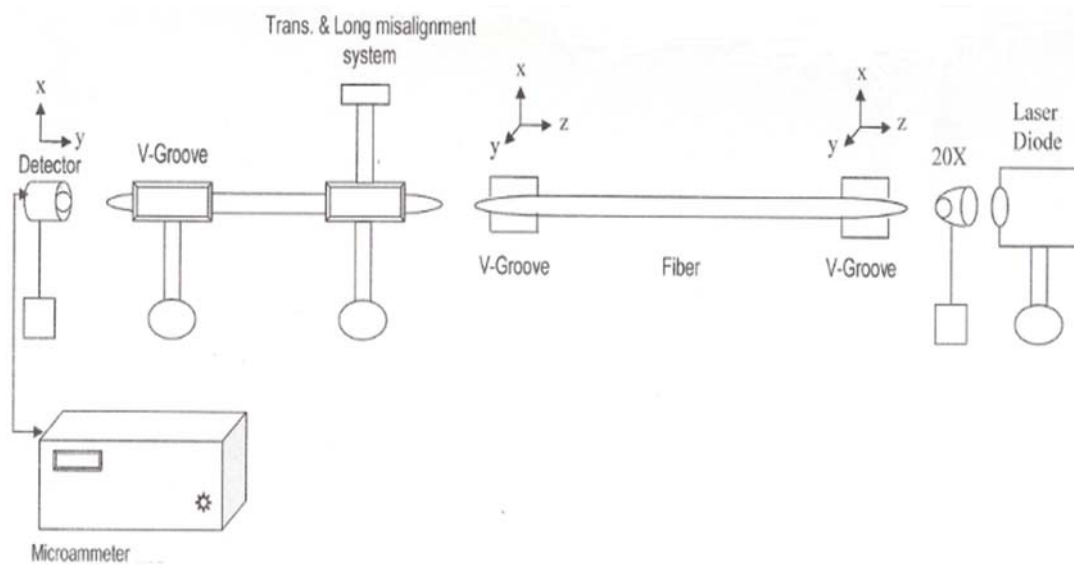

Figure 8: Experimental set up for the calculation of power loss at a splice between two multimode fibers
1. Set the experiment schematically as shown in Figure 8 as follows.